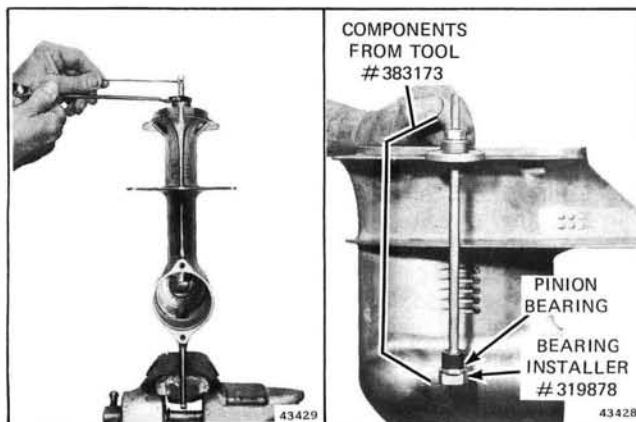

Figure 6-42. Installing Pinion Bearing
3. If removed, install driveshaft pinion bearing using bearing installer (OMC Special Tool #319878) and components from bearing installer (OMC Special Tool #383173). See Figure 6-42. Place bearing with lettered side against tool. Insert in gearcase. Thread components from OMC Special Tool #383173 into bearing installer (OMC Special Tool #319878). Pull bearing into gearcase.